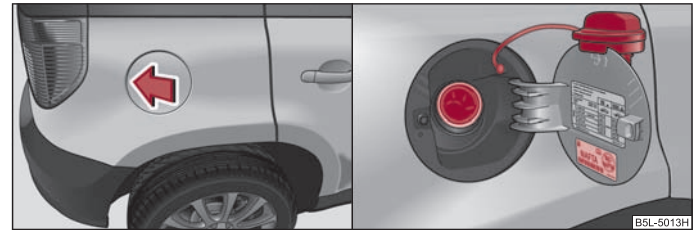

Fig. 11 Right rear side of the vehicle: Fuel filler flap/fuel filler flap with cap unscrewed
- Press in the middle of the left area of the fuel filler flap in direction of arrow ⇒ fig. 11 - left.
- Unscrew the fuel filler cap anti-clockwise and place the fuel filler cap from above on the fuel filler flap ⇒ fig. 11 - right.